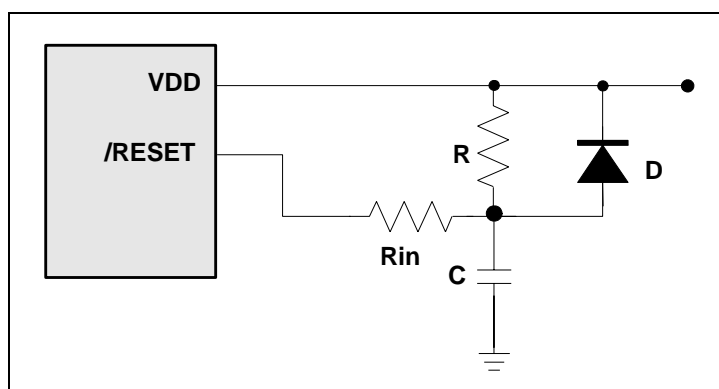

Figure 8-6 External Power on Reset Circuit
The circuit shown in Figure 8-6 (External Power-on Reset Circuit) implements an external RC to produce a reset pulse. The pulse width (time constant) should be kept long enough to allow V_{dd} to reach minimum operation voltage. This circuit is used when the power supply has a slow rise time. Because the current leakage from the /RESET pin is about $\pm 5 \mu\text{A}$, it is recommended that R should not be greater than 40K. In this way, the voltage at Pin /RESET is held below 0.2V. The diode (D) acts as a short circuit at power-down. The capacitor, C, is discharged rapidly and fully. R_{in}, the current-limited resistor, prevents high current discharge or ESD (electrostatic discharge) from flowing into Pin /RESET.